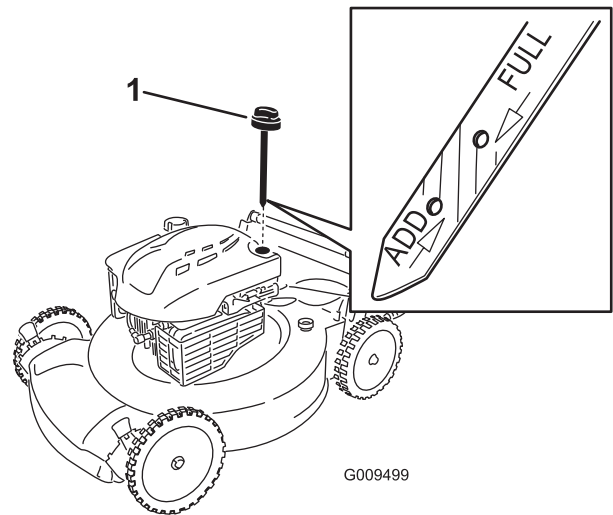

Figure 34
3. Remove the dipstick (Figure 34).
10. Read the oil level on the dipstick (Figure 34).